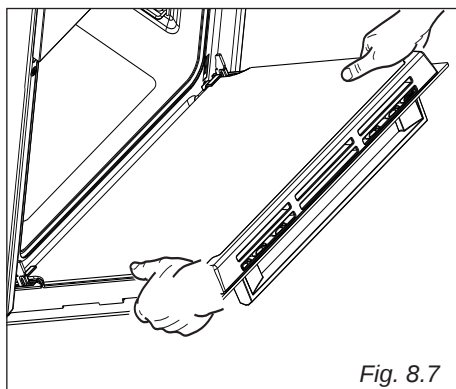

Fig. 8.7
- Impugnare la porta come illustrato in fig. 8.7.
- Hold the door as shown in figure 8.7.